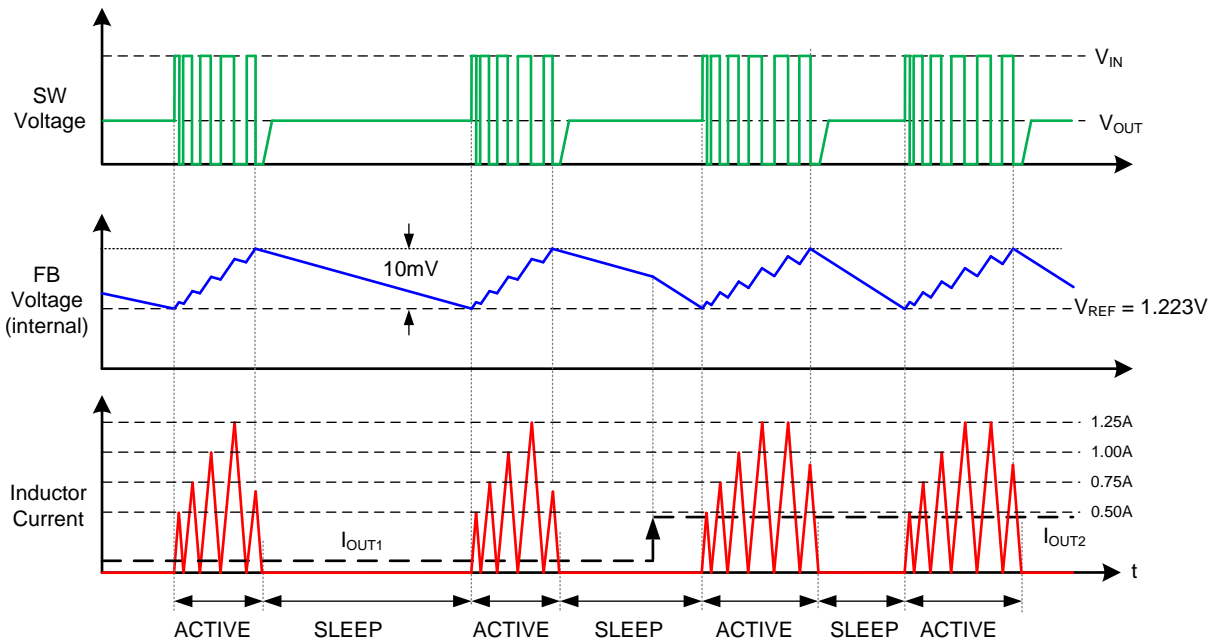

Figure 42. PFM Mode With Modulated I_{LIM} , Output Voltage and Inductor Current Representative Waveforms
One of the supported ILIM settings enables a function that modulates the peak current threshold levels during the first three switching cycles of each active period as illustrated in Figure 42. This function improves efficiency under most application conditions at the expense of slightly degraded load transient response.
(1) For this current limit threshold selection, the ILIM pin may also be left open instead of using a 100-k Ω or greater resistor.
(2) This I_{LIM} setting enables a function that modulates the I_{LIM} levels during the first three switching cycles as illustrated in Figure 42.